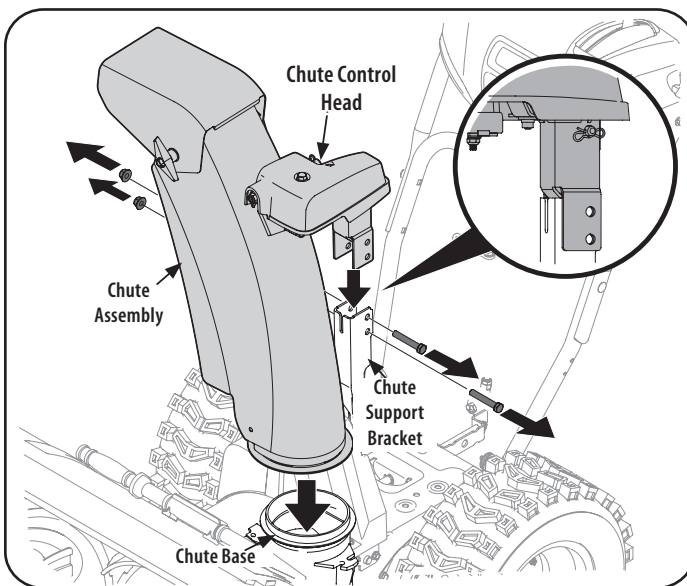

Figure 27
1. Remove lock nuts and hex screws from chute support bracket (this will require two wrenches). See Figure 27.
2. Place chute assembly onto chute base and chute control head onto chute support bracket. See Figure 27.